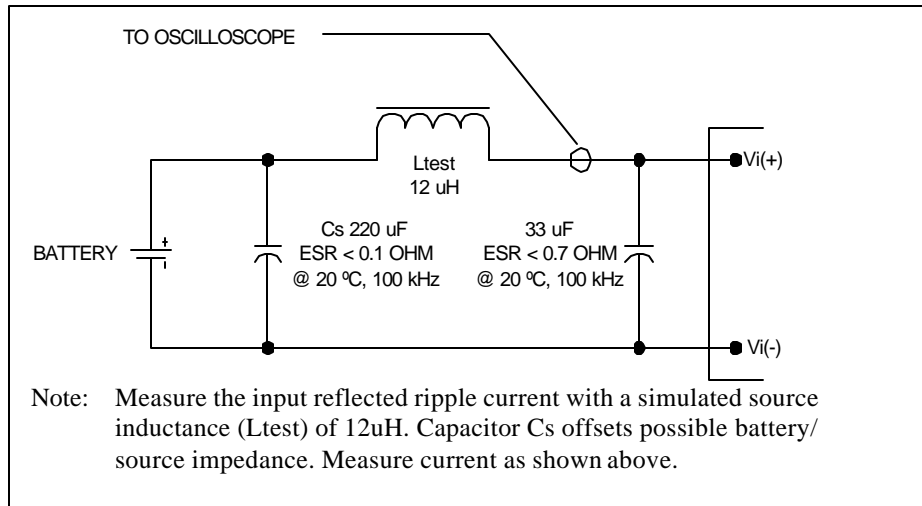

Figure 1. Input Reflected Ripple Current Measurement Setup.
2. External input capacitance required. See Input Ripple Current test measurement setup on Fig 1.